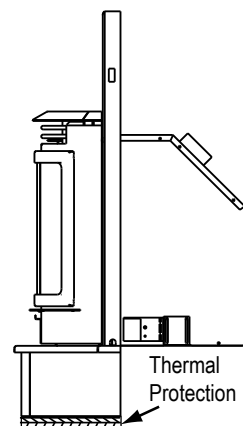

Figure 23.4
10. Thermal protection of 1-1/2 inches (38mm), "k" value of 0.49 and R value of 3.06 under the zero-clearance trim support (**Figure 23.4**).